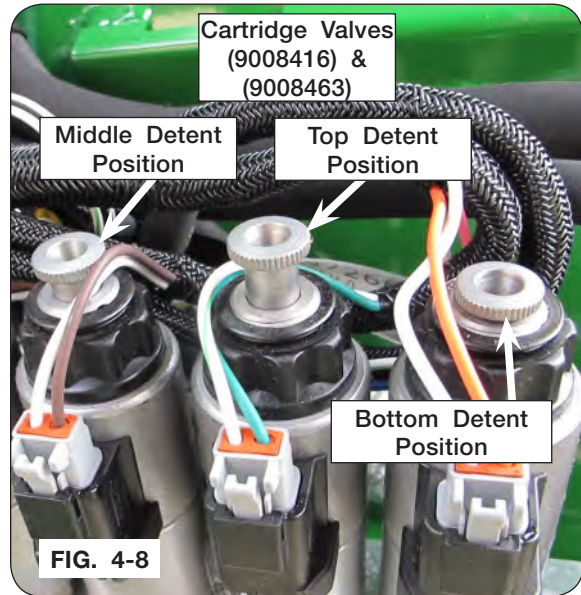

FIG. 4-8
NOTE: Only one cartridge valve (9008416 & 9008463) may be in the top or bottom detent position at a time to function properly. All other valves must be in the middle detent position. (FIGS. 4-8 & 4-9)
5. Operate the desired function on valve (9008416 & 9008463) by rotating the manual override knurled knob from the locked neutral position. (FIGS. 4-8 & 4-9)
8. Return knurled knob to center and lock valve (9008416) & (9008463) in position. (FIGS. 4-8 & 4-9)